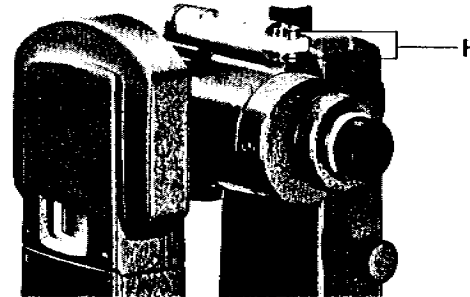

Fig. 17 H Adjustment Nuts
2. Rotate the bubble adjustment nut (Fig. 17) with the adjusting pin to center the bubble in the telescope level.